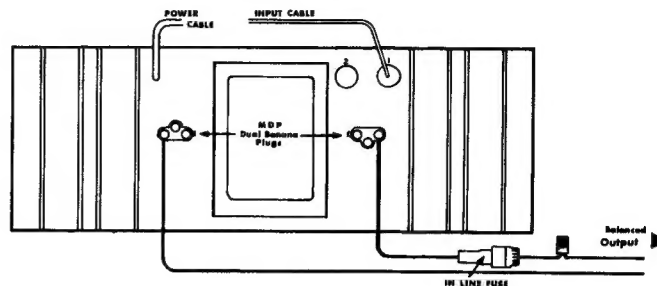

Fig. 2
1. Make output cable as shown in Fig. 2.